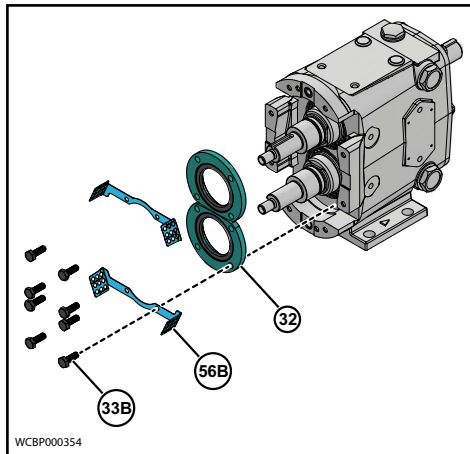

Figure 42 - Remove Seal Guard and Bearing Retainers
NOTE: The Figure 42 is shown for reference only.
3. Remove the front bearing retainer screws (33B) and pull off the Seal Guard-Horizontal (56B) and bearing retainers (32) (Figure 42). If a retainer is stuck, leave it in place; it will press out when the shaft is removed.